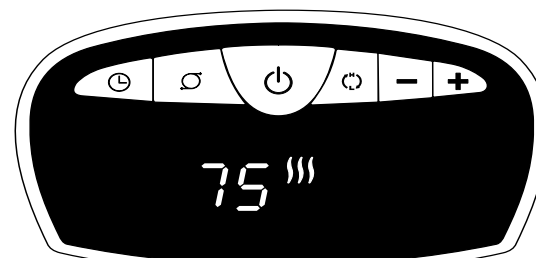

Figure 2
- Upon turning the Heater on, the unit will be in HIGH heat (⏻) (1500 Watts) and will display the current room temperature (Figure 2)